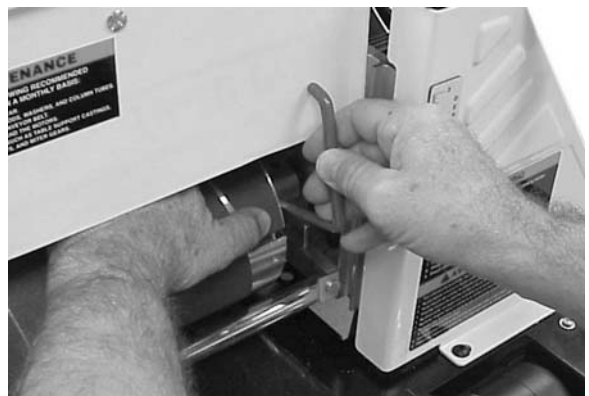

Figure 16
5. Hold the sandpaper in place with your left hand. Rotate the drum toward you slightly. Pull up on the TUF Tool and turn the handle clockwise while maintaining upward pressure. Slowly move the TUF Tool away from you slightly, then down, while easing it out of the hole. This releases the lever into its proper position. (Figure 16).